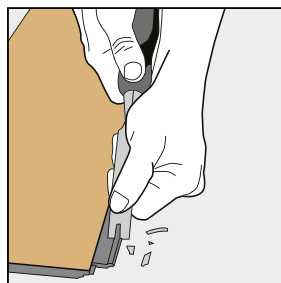
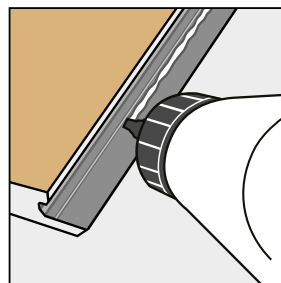

Figure 39
Figure 40
- > Where the planks can no longer be installed together using the Angled Fold Down Installation method. Remove the upstand on the locking element of the protruding lower female profile (Fig 39). Then, use a suitable contact adhesive in accordance with the manufacturer's instruction (Fig 40) to connect the planks. Remember to place spacers between these planks and the wall to maintain the expansion gap.